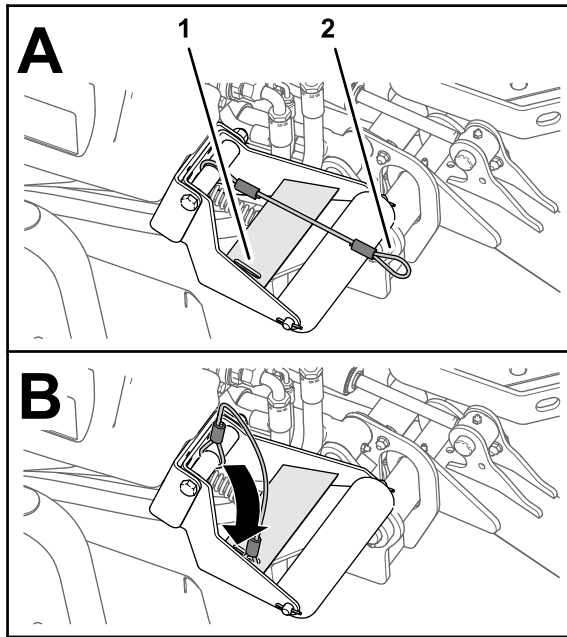

Figure 72
4. With the cutting units lowered, slip the loop of the lanyard into the slot in the reinforcement plate of the roller support (Figure 72).